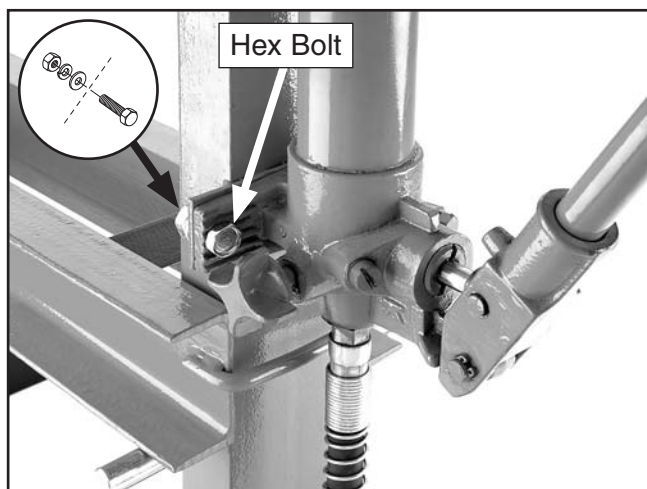

Figure 15. Pump installation.
- Attach the hydraulic pump to the lower pump bracket with the two M8-1.25 x 25 hex bolts, two 8mm flat washers, lock washers and hex nuts, as shown in **Figure 15**.